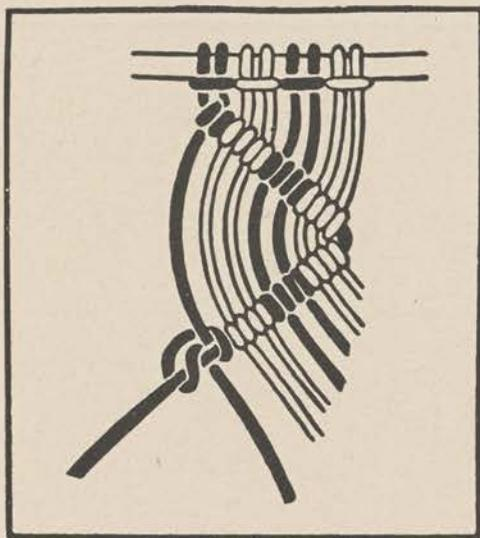

Figure 162.
*c.* When half hitching is done with a number of strands, one of the outer ones is generally used as the core, and each of the other strands is half hitched over it in succession (fig. 162). The same method is used in combining half hitching with square knotting.